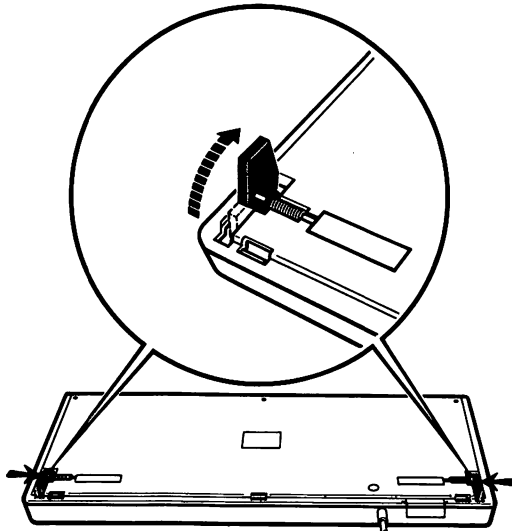

Figure 5-9. Press the feet in as you flip them up.
- Locate the two adjustable feet on either side of the keyboard. (See Fig. 5-9.)